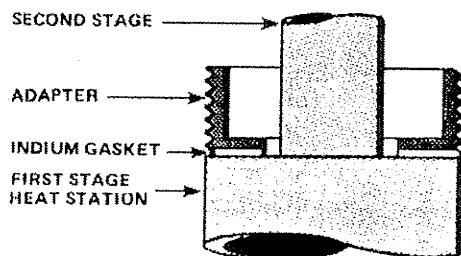

Figure 4 Install the Shroud Adapter
4. Examine the refrigerator's first stage heat station and the adapter. Both must be clean and free of any surface conditions that could prevent full contact. See Figure 4.
7. With its threaded sleeve toward the refrigerator's second stage heat station, place the adapter around the second stage and seat its flange against the gasket on the first stage. See Figure 4.